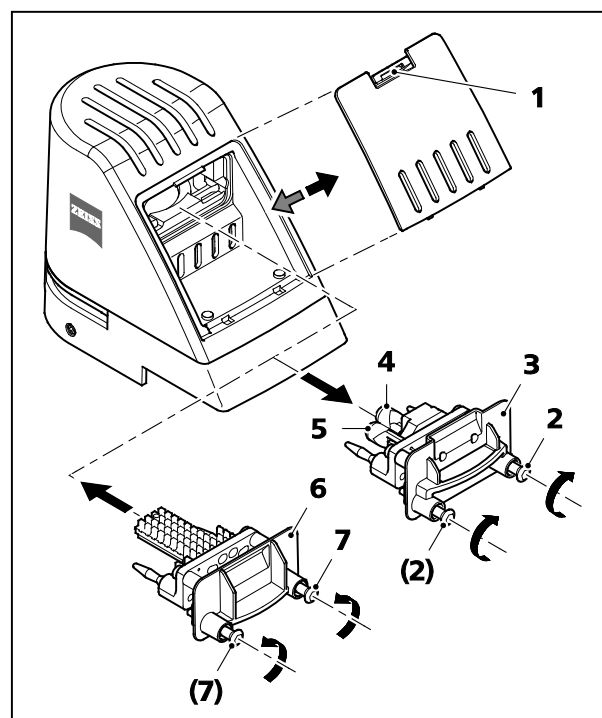

Fig. 20 Replacing the halogen bulb 6 V / 30 W or the transmitted-light illuminator with LED
- Press down the clamping lug of the cover (Fig. 20/1) and remove the cover from the stand.
- Loosen both fastening screws (Fig. 20/2) of the transmitted-light illuminator (e.g. transmitted-light illuminator with halogen bulb, Fig. 20/3). In doing so, slightly press the screws against the spring and turn them by 90°: Turn left and right screw clockwise.
- Pull the transmitted-light illuminator (Fig. 20/3) out of the stand.
- Pull the halogen bulb (Fig. 20/4) out of the lamp carrier and insert the new halogen bulb. Do not touch the new lamp with bare fingers as this will decrease the life of the bulb.
A spare bulb (Fig. 20/5) can be placed in the transmitted-light illuminator with halogen bulb and remain there during the operation.
- Push the transmitted-light illuminator (e.g. transmitted-light illuminator with LED, Fig. 20/6) into the stand and fasten it with the two screws (Fig. 20/7). In doing so, slightly press the screws against the spring and turn them by 90°: Turn right and left screw counterclockwise.
- Attach the cover (Fig. 20/1) again to the stand and let it snap into place.